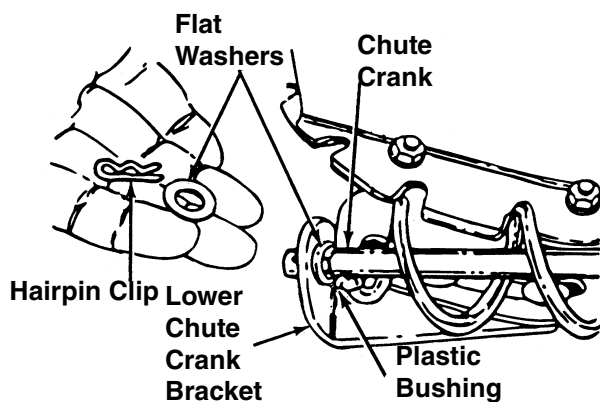

Figure 10
2. Place one flat washer over the end of the chute crank, then insert the end of the crank into the hole in the plastic bushing in the lower chute crank bracket. See Figure 10. Place second flat washer on chute crank, and secure with hairpin clip.